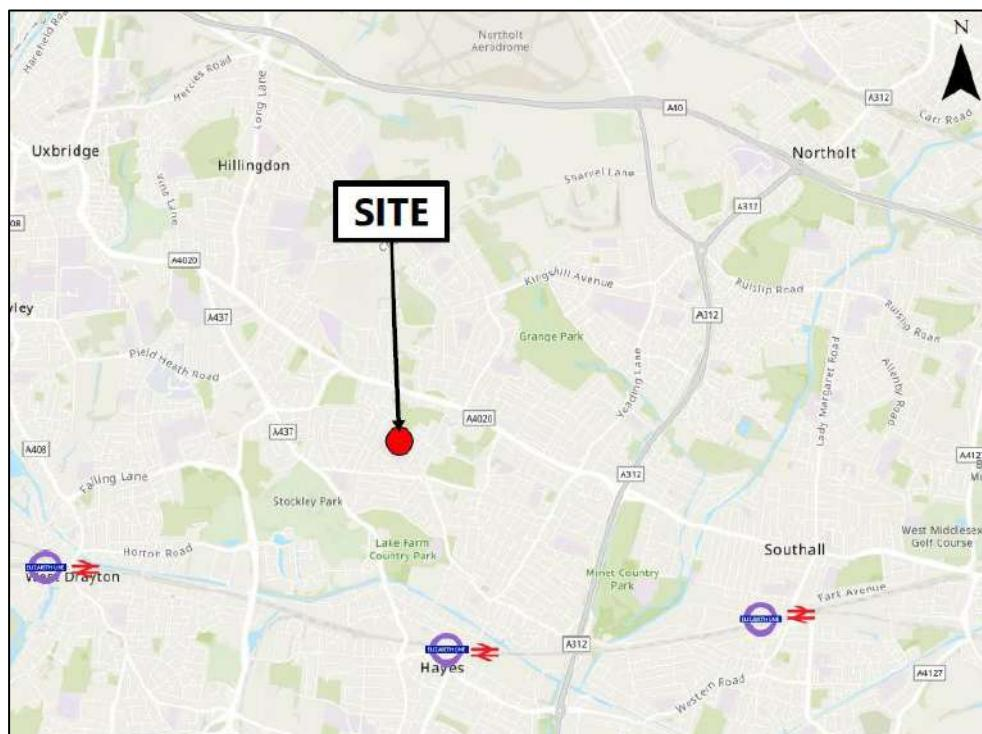

Figure 2.1: Regional Context Plan
2.6 The site is located to the south of Wood End Green Road which connects to Uxbridge Road (A4020) to the north. **Figure 2.1** below shows a regional plan of the site in the context of nearby railway stations.